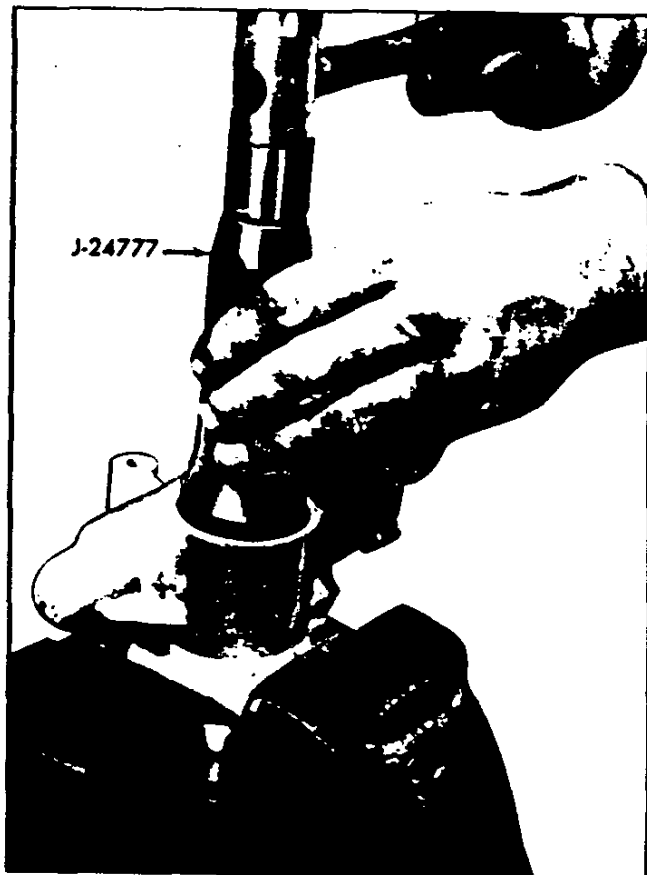

Fig. 13—Installing Distributor Drive Housing Seal with J-24777
6. Install new seal using Tool J-24777 (fig. 13).